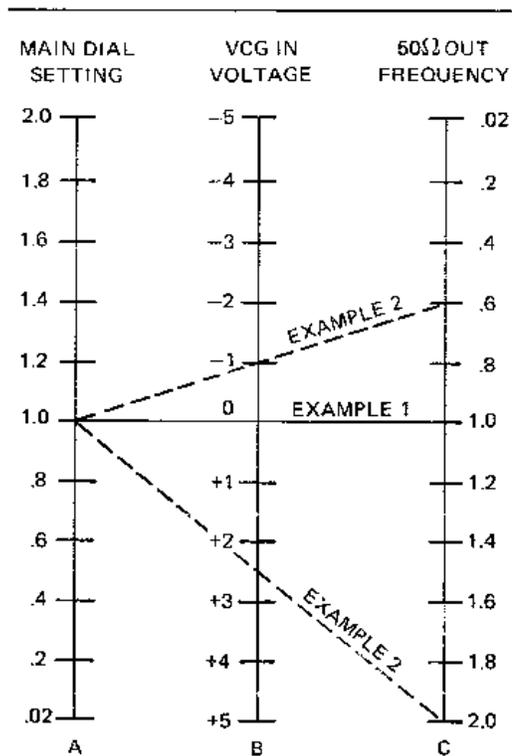

Figure 2-3 - VCG Voltage-to-Frequency Nomograph
- 8. The nomograph in Figure 2-3 shows the characteristics of the VCG circuit. Column A gives the frequency dial setting; column B, the VCG input voltage; and column C, the approximate resultant dial frequency. Column C must be multiplied by the frequency range multiplier for the actual output frequency.